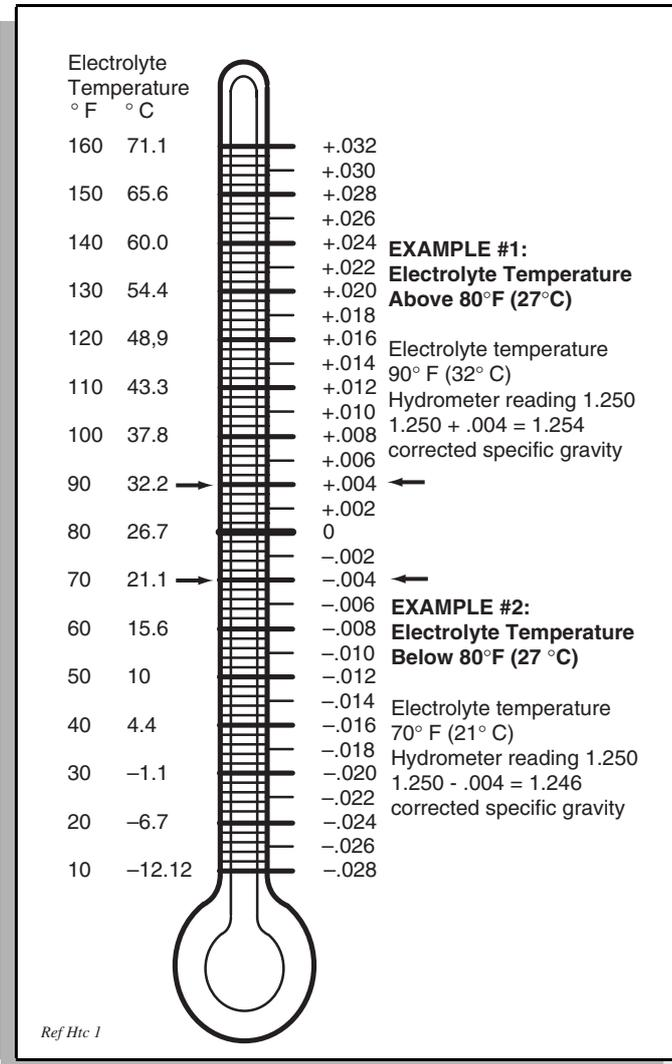

Fig. 31 Hydrometer Temperature Correction
4. Add or subtract four points (.004) to the reading for every 10° F (6°C) the electrolyte temperature is above or below 80° F (27° C). Adjust the reading to conform with the electrolyte temperature, e.g., if the reading indicates a specific gravity of 1.250 and the electrolyte temperature is 90° F (32° C), **add** four points (.004) to the 1.250 which gives a corrected reading of 1.254. Similarly if the temperature was 70° F (21° C), **subtract** four points (.004) from the 1.250 to give a corrected reading of 1.246 (Ref Fig. 31 on page 25).